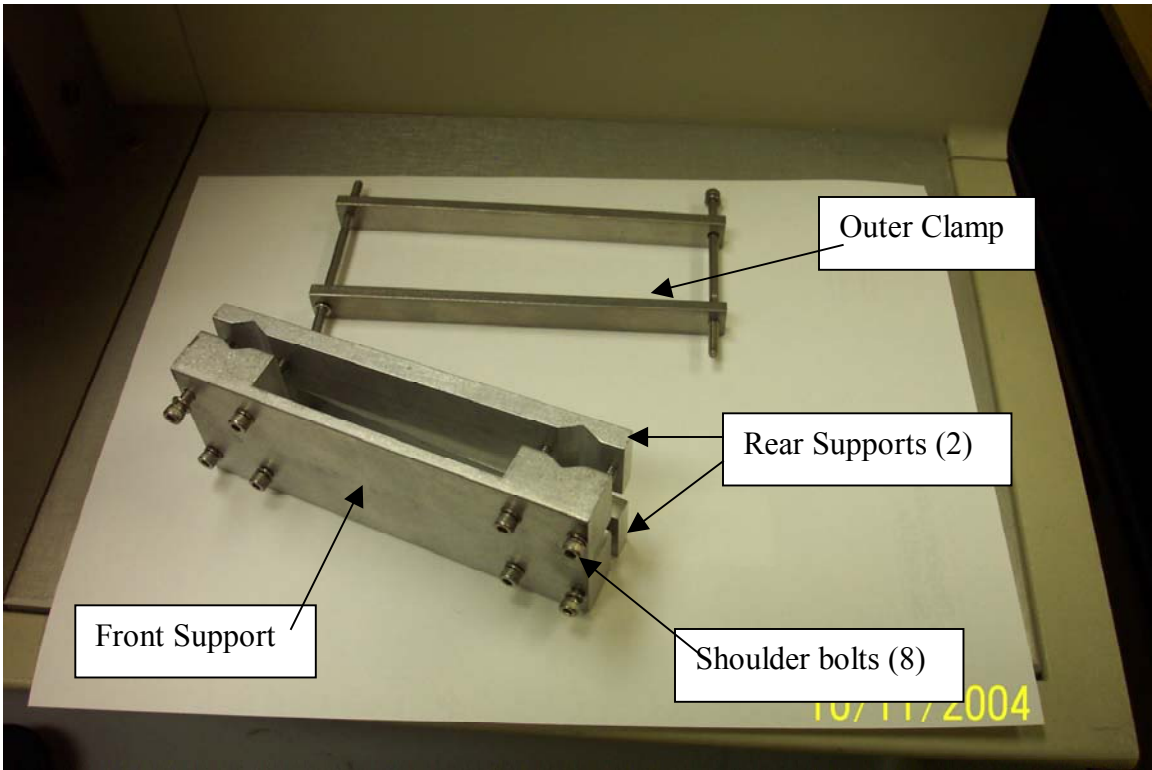

Figure 3
4. Remove the 8 shoulder screws from the front support bracket (Figure 3).